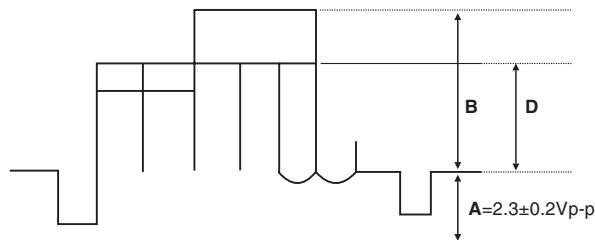

Fig. 1
- 2.1. Connect the oscilloscope in TPL2 (G-OUT) with a 10K Ω resistor and adjust "CONTRAST", so that the waveform in [B] it is of 2.6±0.1V according to fig. 1.
- 2.2. Adjust "SUB-COLOR" to obtain 2.45±0.1V in [D] according to fig. 1.